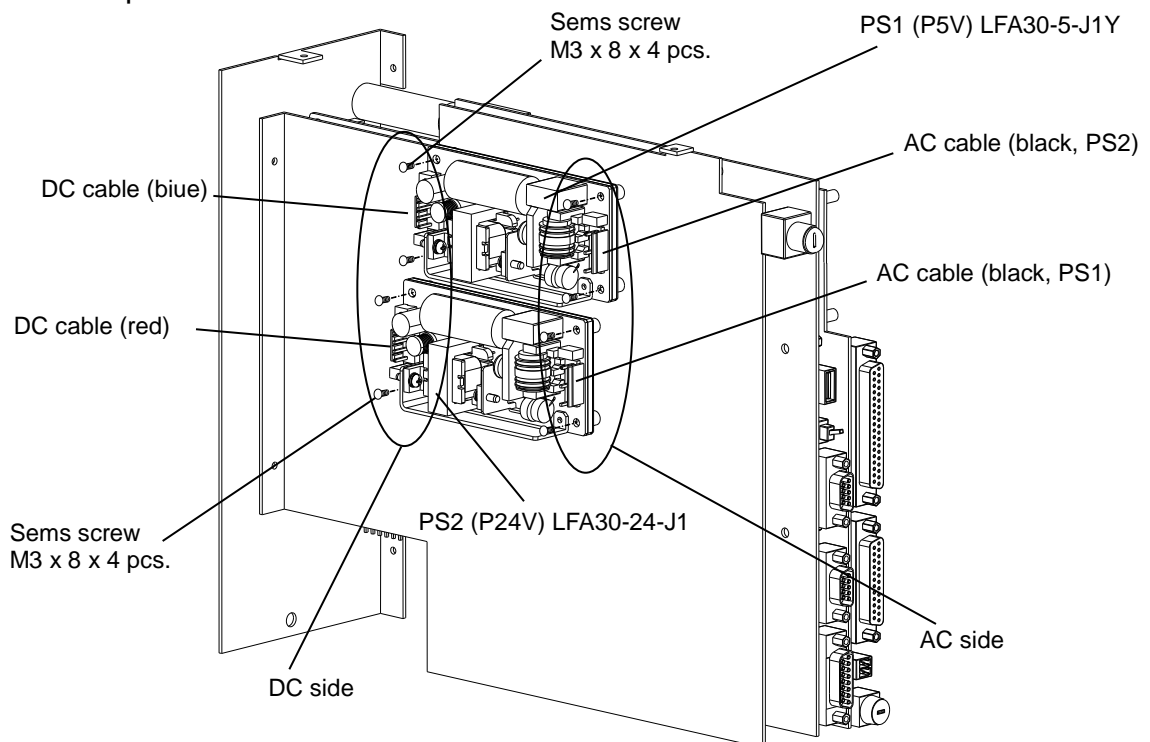

Fig. 4.9 Side view of interior panel unit assembly (KSL3000)
- 10) Attach a cable to each of the PS1 and the PS2. (See Fig. 4.9.)